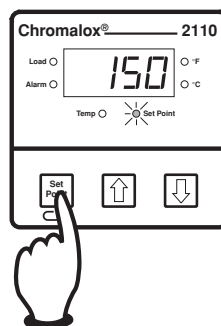

Figure 1.2
2. To adjust the set point on the Chromalox 2110 Temperature Controller, press and hold the Set Point button (see Figure 1.2). The Set Point light is illuminated.